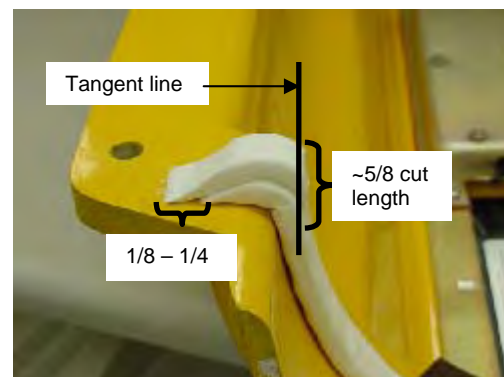

Figure 10
- e. Cut the inside end of the fillet seal starting at a point that is tangent to the inside top edge of the end seal and extends downward for 5/8" ( $\pm 1/8$ ") and meets the end seal. Remove excess material. Refer to Figure 10.